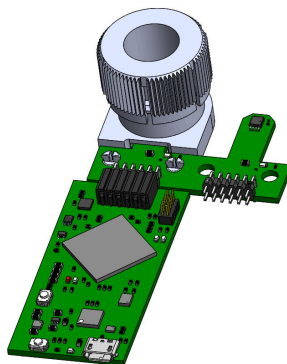

Figure 4-10. Rotate & Push Module on EVM
- b. Use the Rotate & Push Module by attaching it to the EVM (see Figure 4-10). For more details on how to use this module, see Section 4.2.2.
1. Attach the Rotate & Push Module to the EVM as shown in Figure 4-10.